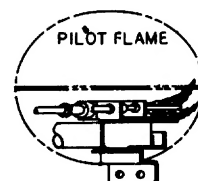

Figure 15
B. Pilot Flame - The pilot flame should engulf the tip of the thermocouple as illustrated in Figure 15. Correct as needed.